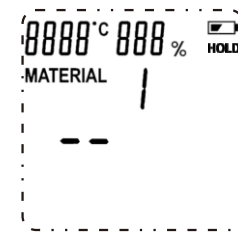

Figure 2-1-1
- When the Meter is off, press "On/Off" button to turn on the Meter. The Meter will display as in Figure 2-1-1 and shows the current temperature humidity.